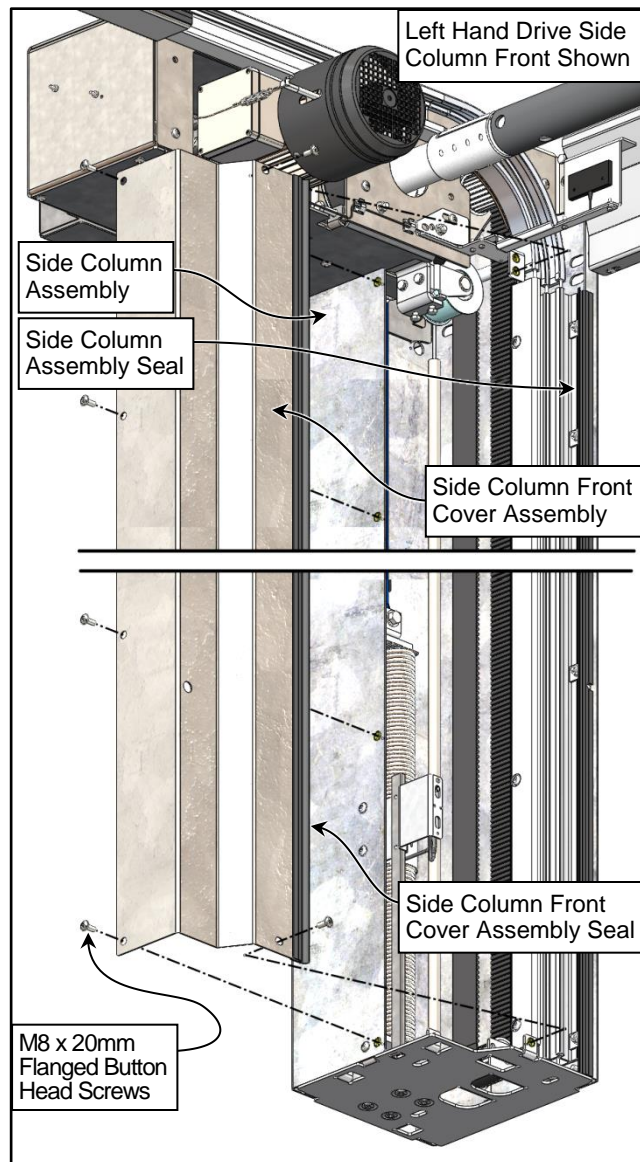
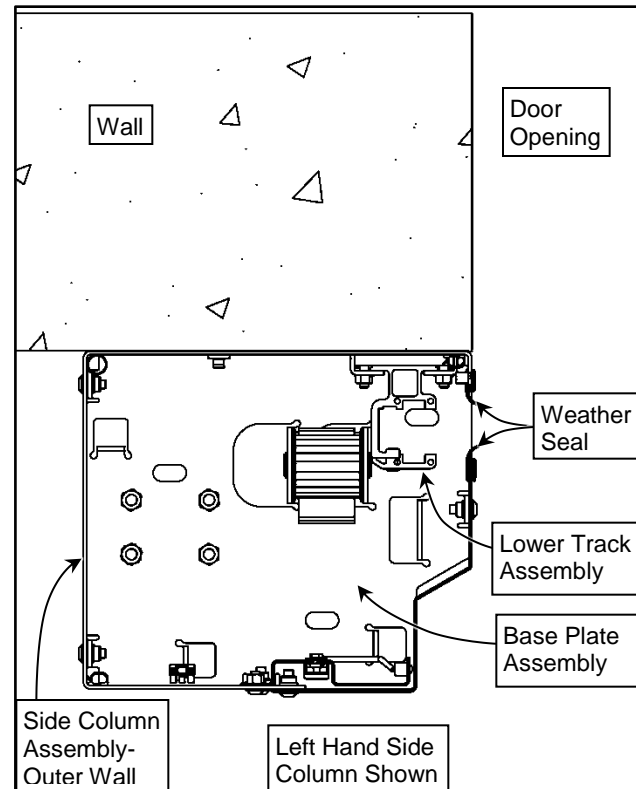

Figure 73
Figure 74
3. Remove the cover from the side column assembly containing the secondary drive belt to be replaced. The cover is held in place with Button Head TORX® screws. (See Figure 73)
3. On the door's drive side remove the cover from the side column assembly. The cover is held in place with Button Head TORX® screws. (See Figure 73)
3. Remove the cover from each side column assembly. The cover is held in place with Button Head TORX® screws. (See Figure 73)
3. Remove the side column cover from the side column assembly containing the weather seal to be replaced. The cover is held in place with Button Head TORX® screws. (See Figure 73)
4. There is a length of weather seal on both the side column cover and the side column. Each weather seal can be removed by pulling on either end of the seal, while working toward the opposite end. (See Figure 74)
5. Attach the new weather seal in the opposite manner the old seal was removed. Make sure the seal is firmly seated along the edge. (See Figure 73 & Figure 74)
3. Remove the cover from the side column. The cover is held in place with 20-mm-long, Button Head TORX® screws. (See Figure 73)
3. Remove the side column cover from the side column assembly containing the roller or guide wheel to be replaced. The cover is held in place with Button Head TORX® screws. (See Figure 73)